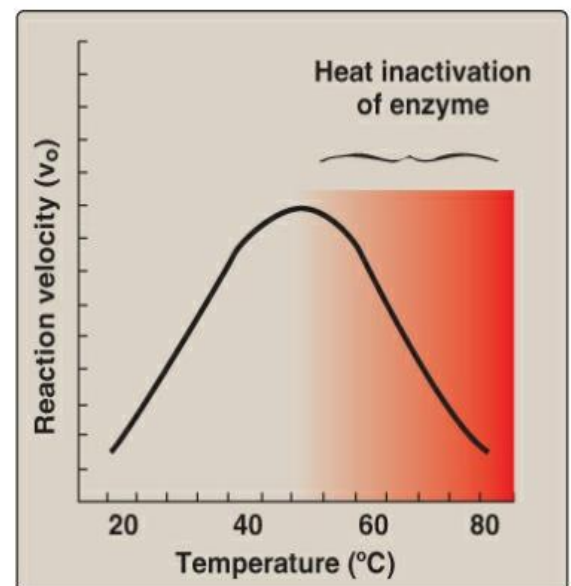

Figure 5.7
1. Velocity increase with temperature: The reaction velocity increases with temperature until a peak velocity is reached (Fig. 5.7). This increase is the result of the increased number of substrate molecules having sufficient energy to pass over the energy barrier and form the products of the reaction.
2. Velocity decrease with higher temperature: Further elevation of the temperature causes a decrease in reaction velocity as a result of temperature-induced denaturation of the enzyme (see Fig. 5.7).